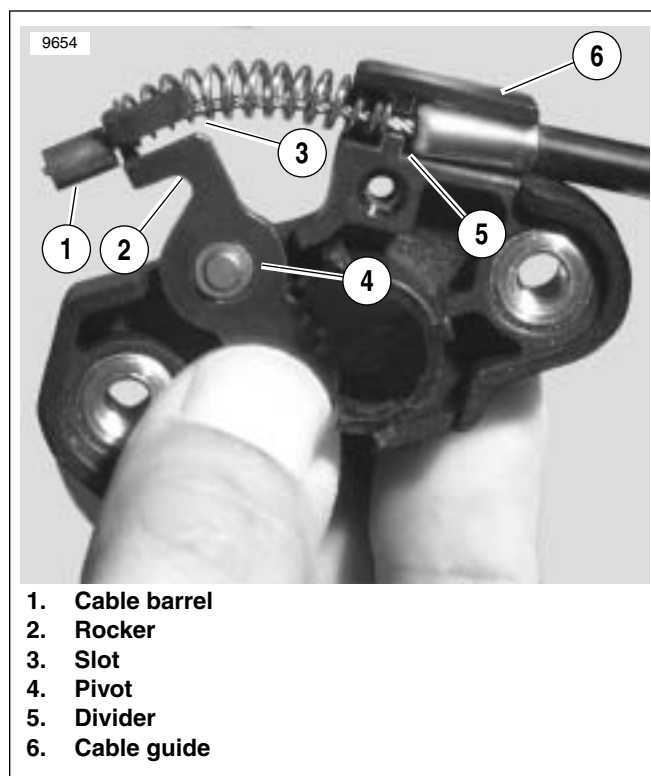

Figure 2-167. Seat Latch (top plate removed)
6. See Figure 2-167. To disconnect seat latch, remove single fastener and remove top plate. Remove cable barrel (1) from rocker (2) and remove cable from cable guide (6).
8. With key switch in FUEL, compress spring over cable and install cable barrel (1) through slot (3) in rocker (2).
9. Hold rocker (2) on pivot (4). Use divider (5) in guide to separate spring from cable sheath. Install top plate.